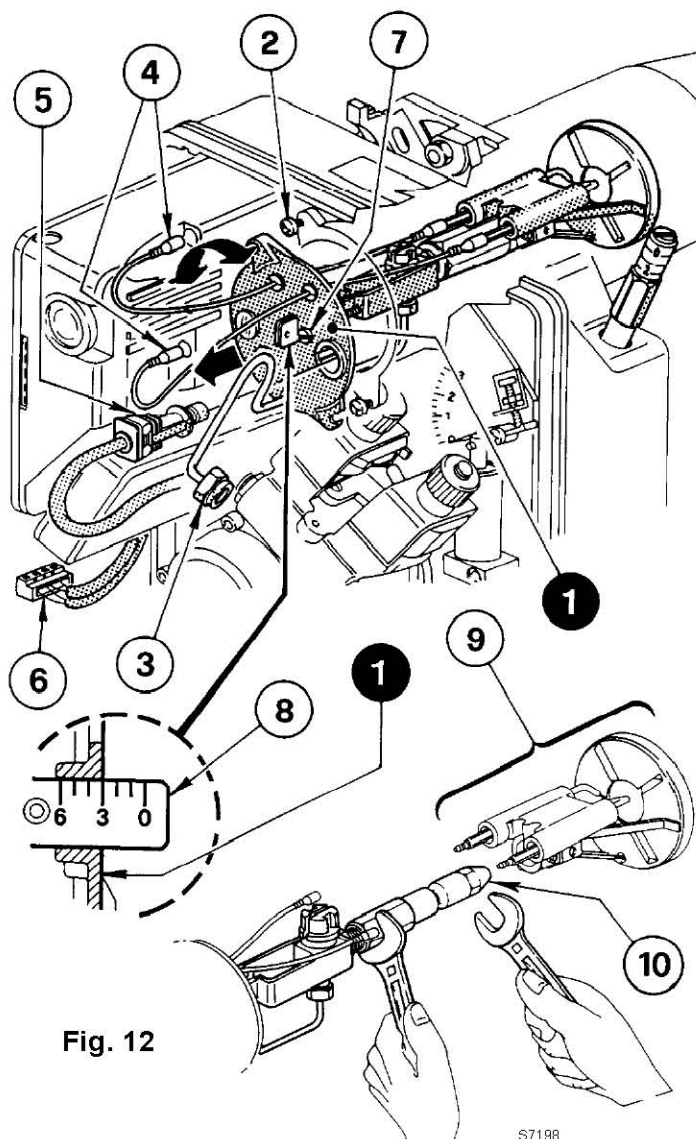

Fig. 12
B Fig. 12 – Remove nozzle-holder assembly (1) after loosening screws (2) and nut (3), remove the small cables (4) from the control box, the photoresistance (5) and the socket (6).
2 COMBUSTION HEAD SETTING (see fig. 12)